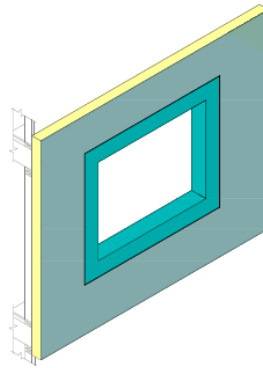

Figure 13
- b. Apply Dymonic 100 (40 wet mils) into the rough opening in a zig zag pattern so that the sill, jambs and head are properly detailed. Once the sealant is installed, smooth with a trowel to ensure uniform and complete coverage. The job details will indicate the width required for this detailing depending on the depth of the rough opening and the connection to the fenestration – Figure 13.